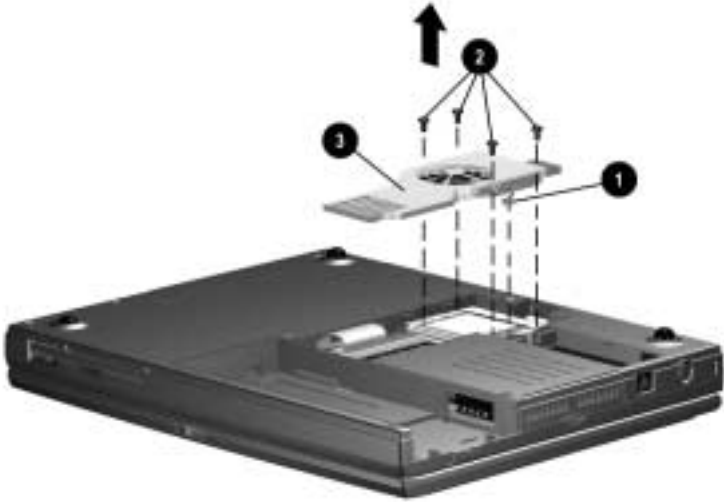

Figure 5-7. Removing the Fan Assembly
5. Disconnect the fan cable ❶ from the system board (Figure 5-7).
6. Remove the four screws ❷ securing the fan assembly to the system board.
7. Remove the fan assembly ❸.